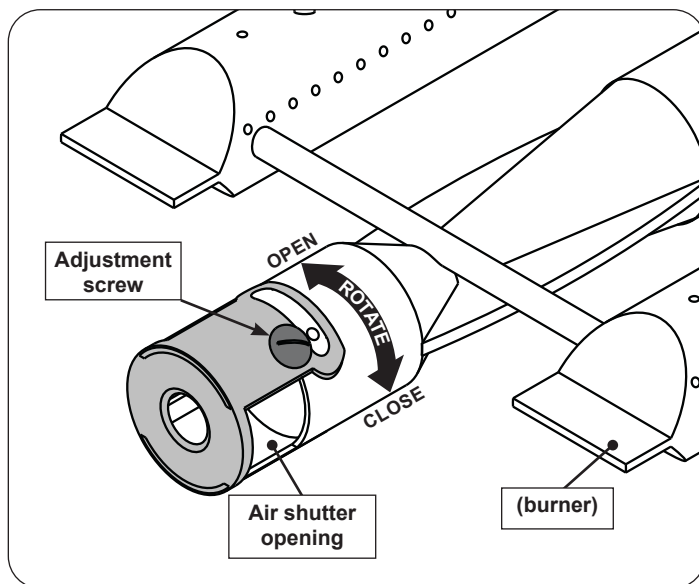

Fig. 37-2 Main burner air shutter adjustment detail
1. To adjust the air shutter, loosen the adjustment screw with a flathead screwdriver. Then rotate the shutter to open or close it. See Fig. 37-2 for details.